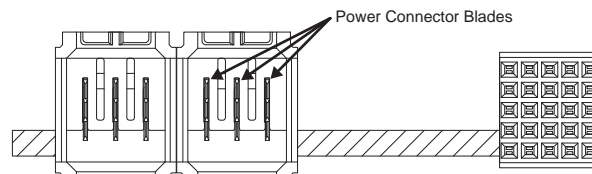

Figure 4.8 Power Connector Blade Inspection
2. Inspect the **Power Connector Blades** on the edge of the board (**Figure 4.8**) to ensure that they are not bent or damaged.